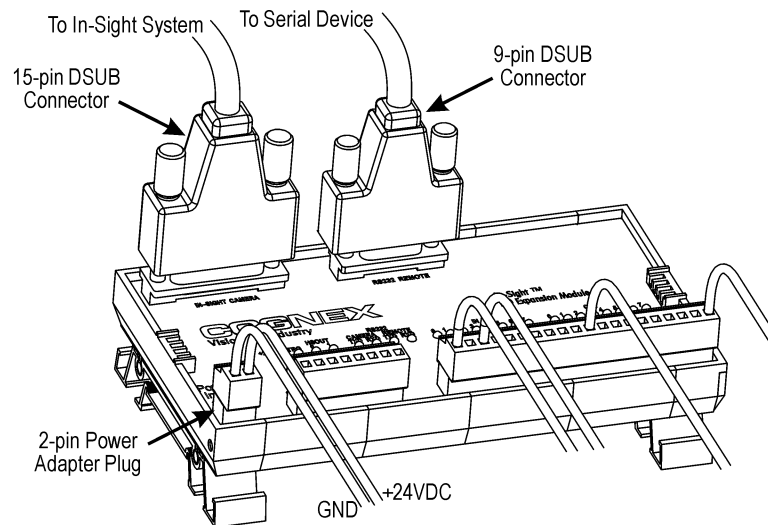

Figure 2-3: I/O Expansion Module Connections
7. Plug wire leads from a 24VDC supply for the +24V power and ground into the 2-pin terminal plug labeled "Power Input" on the Expansion Module. Alternatively, remove the terminal plug and insert the 2-pin terminal plug attached to the In-Sight power adapter into the keyed power adapter port on the Expansion Module (Figure2-3).